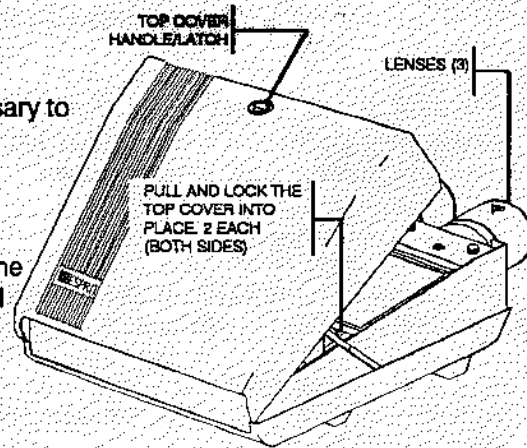

FIGURE 8-1.
- STEP 1. The top cover unlatched and locked by: (1): lifting the quick release handle/latch located at the front of the system on the top cover. This will allow the top cover to tilt-up. (2): The top cover may be locked into place by the 2 locking hinges located on the left and right side of the system. See figure 8-1.